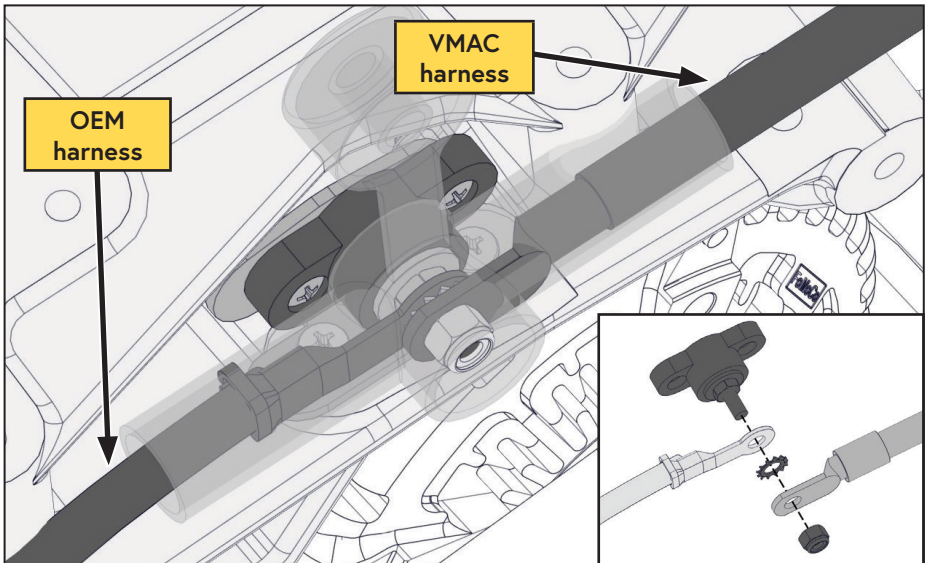

Figure 36 — Install alternator harness
- ☐ Secure the supplied boot, OEM cable, and jumper cable onto the terminal post as shown (note the orientation of the harness terminals) (Figure 36).